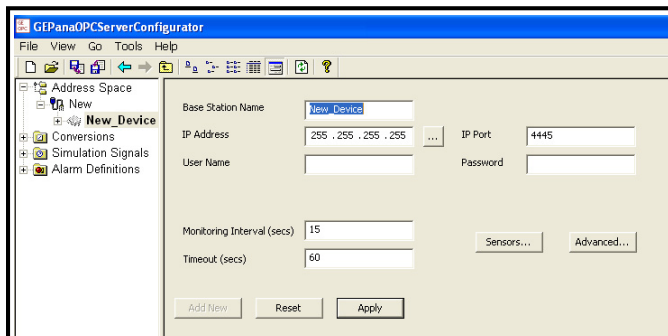

Figure 31: New Device Option
1. Right-click on the newly created channel. From the **New** option, click on the **RF ValProbe Device** selection. The right pane of the window appears similar to Figure 31 below.